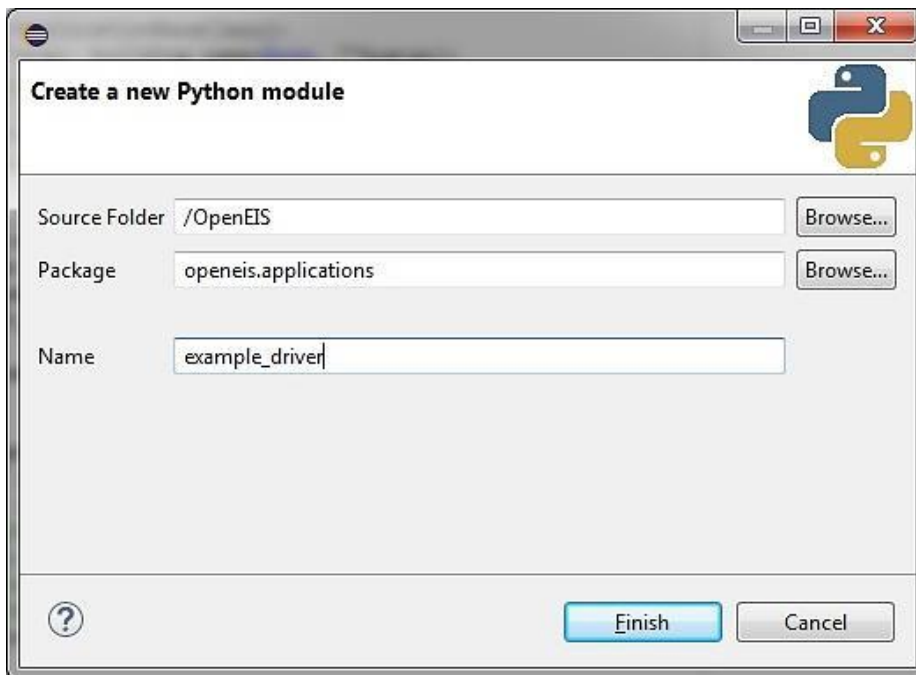

Figure 57: Creating a new Driver Application (continued)
2. On the new Python module screen, enter the following information (Figure 57):